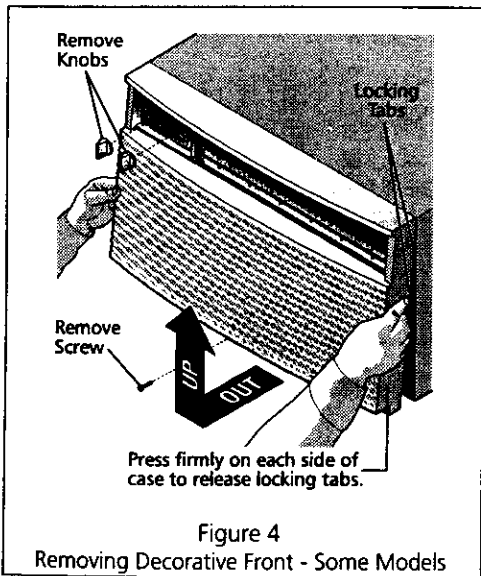
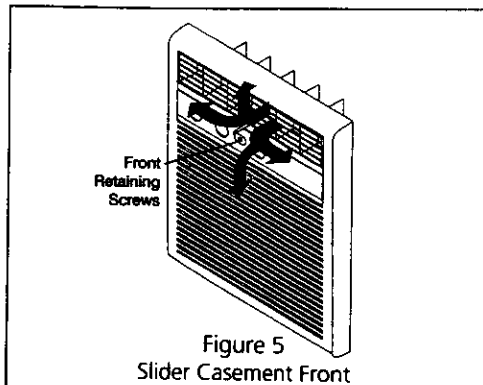

Figure 4
Figure 5
- The cabinet front can be removed for more thorough cleaning. Refer to "Front Installation" in this manual and Figures 4 and 5.
2. Remove knobs by pulling firmly, and then remove dial plate. Remove front retaining screw from the front (see Figure 4 or 5 for screw location, whichever is similar to your model).
3. Press firmly on each side of the metal case close to the front, approximately half way down for Figure 4, or 2/3 the way down from Figure 5 from the top of the front
2. Position the top of the decorative front on the top flange of the case and align the tabs on the front with the slots in the case. On some models remove the filter to expose the two (2) front retaining screws.
4. Install the front retaining screw (see Figure 4 or 5 for screw location, whichever is similar to your model).